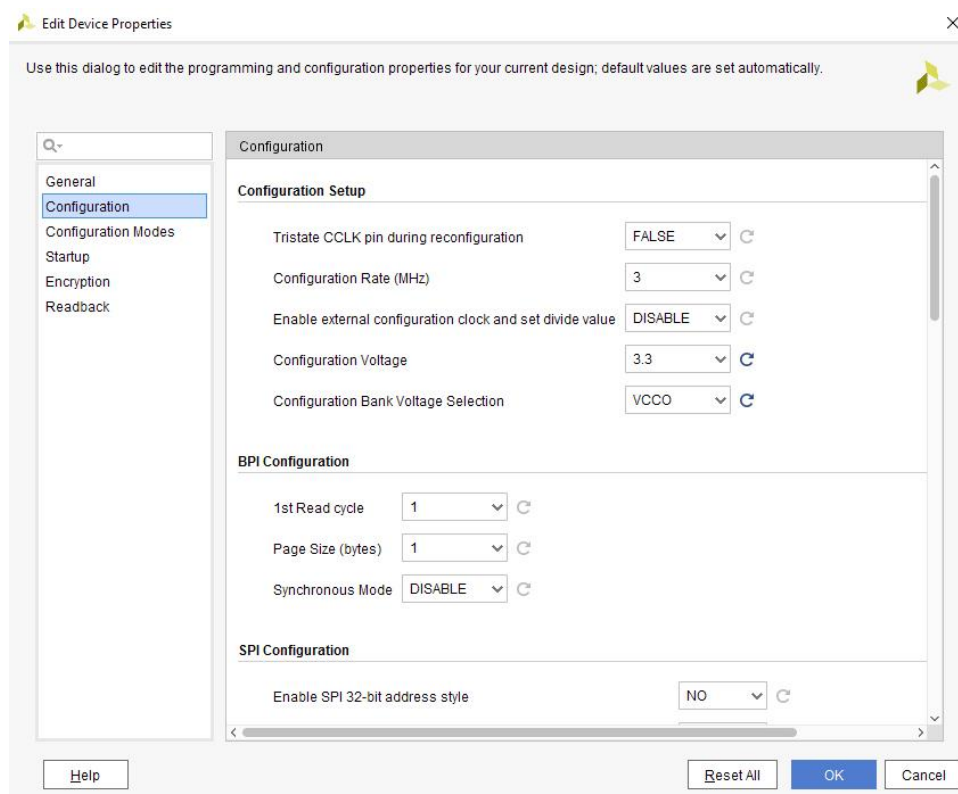

Figure 35
5. Then go to the **Configuration Bank Voltage Selection** and in the drop-down menu choose **VCCO** (see Figure 35)